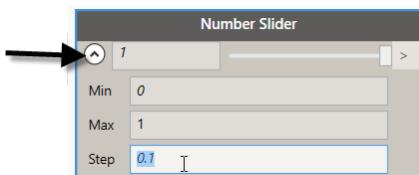

Figure 35
15. Set the Min to: **0** and the Max to: **1**. For the Step, try a value of: **0.1**. and then close the controls by clicking the chevron again (see Figure 35).